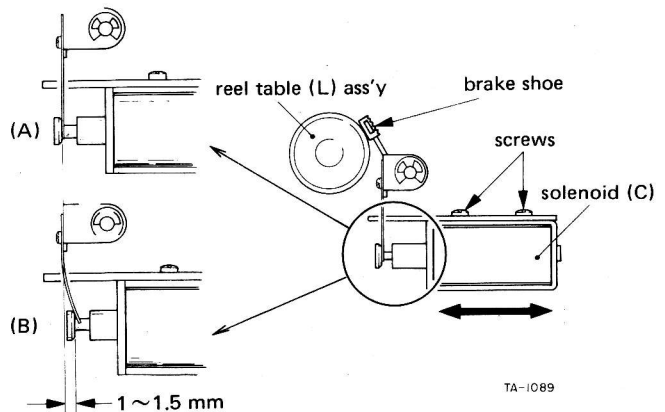

Fig. 4-7
1. Adjust the solenoid position so that when the brake shoe makes contact with the reel tape (L) ass'y by hand (see (A) of Fig. 4-7), the plunger can be bottomed by 1 ~ 1.5 mm more when it is pushed beyond the leaf spring's normal relaxed shape (see (B) of Fig. 4-7).